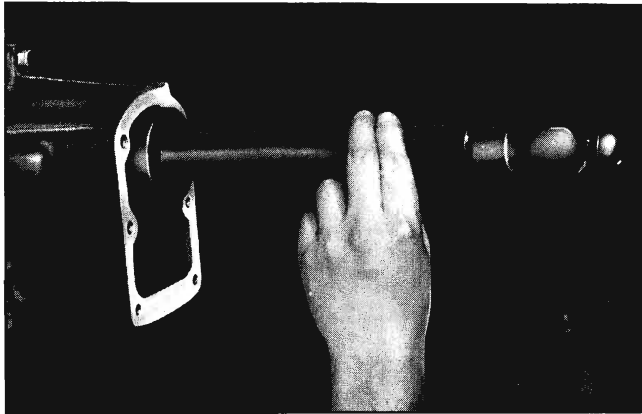

Fig. 7-25 Installing New Seal
4. Install new bearing seal with suitable tool (Fig. 7-25).